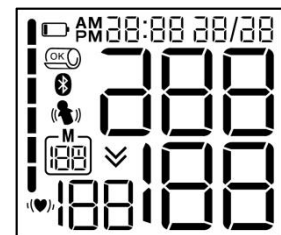

Figure 8-1
- a. After securing the cuff and getting comfortable, press the “**START**” button to take a measurement. Verify the LCD display matches what is shown in Figure 8-1.